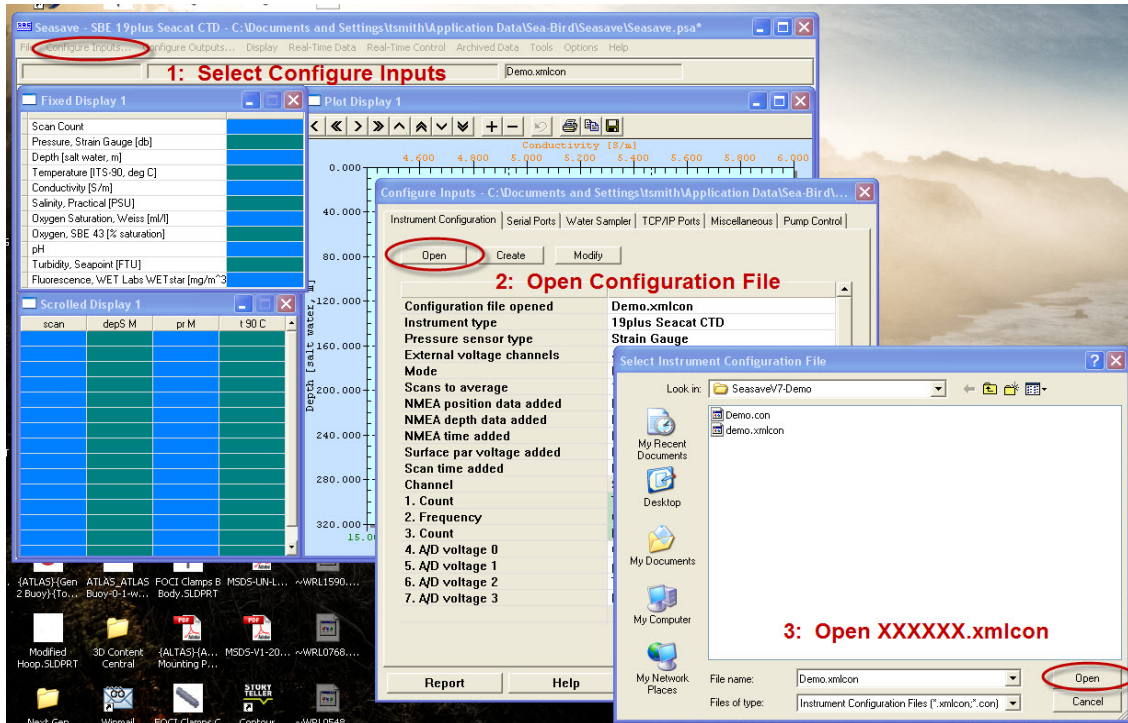

Figure 11: Opening configuration file.
- 2) Open configuration file (Figure 11):